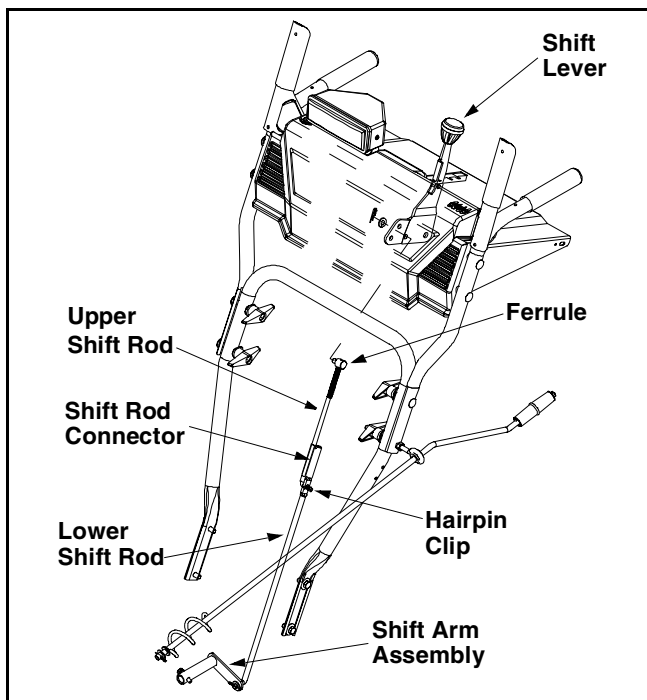

Figure 8
- Place shift lever in sixth (6) position or the fastest forward speed.
- Rotate the ferrule up or down on the shift rod as necessary until the ferrule lines up with the upper hole in the shift lever. See Figure 8.